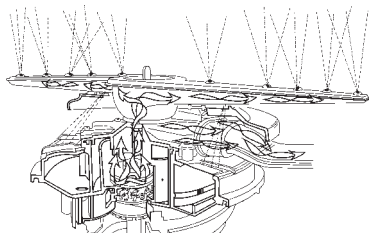

Fig. 3-1
1. Once the tub has filled with hot water the motor begins to rotate forcing the water up through the pump chamber and out through the spray arms. Two spray jets on the underside of the lower spray arm direct water down onto the fine mesh screen of the pump housing to clear soils that may collect there during the wash cycle. (Fig. 3-1)
2. As water and soils return to the lower pump area, the chopper blade grinds the particles into smaller sizes that then pass through the perforated plate into the upper chamber of the pump. The pump impeller causes the soil laden water to be lifted and moved to the outer edges of the pump chamber where they are forced into the separator. Clean water is then forced up through the spray arms and fine mesh screen. (Fig. 3-1)